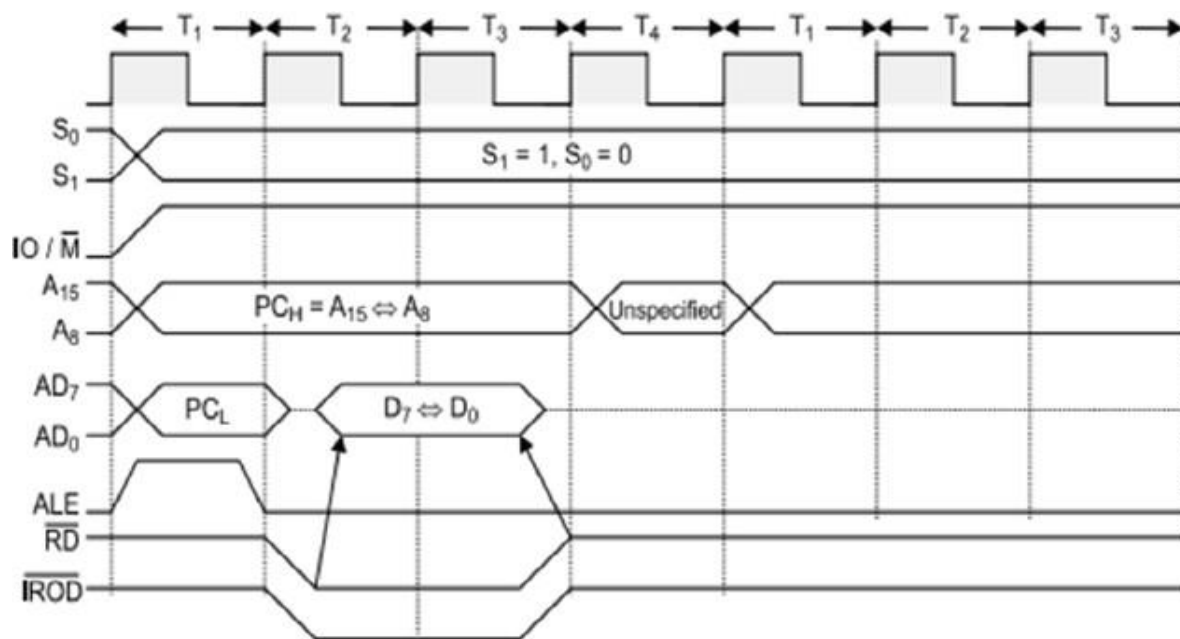

Fig 13.IO Read timing diagram
3. During T1, The Lower Byte of IO address is duplicated into higher order address bus A8-A15 as in fig13.